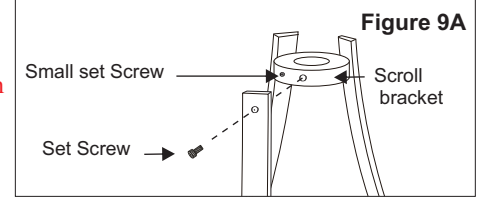

Figure 9A
5. Remove three set screws on the scroll bracket. Install the scroll to the scroll bracket by attaching screws previously removed. Do not tighten. Repeat the procedure for the other two scrolls. (Figure 9A)